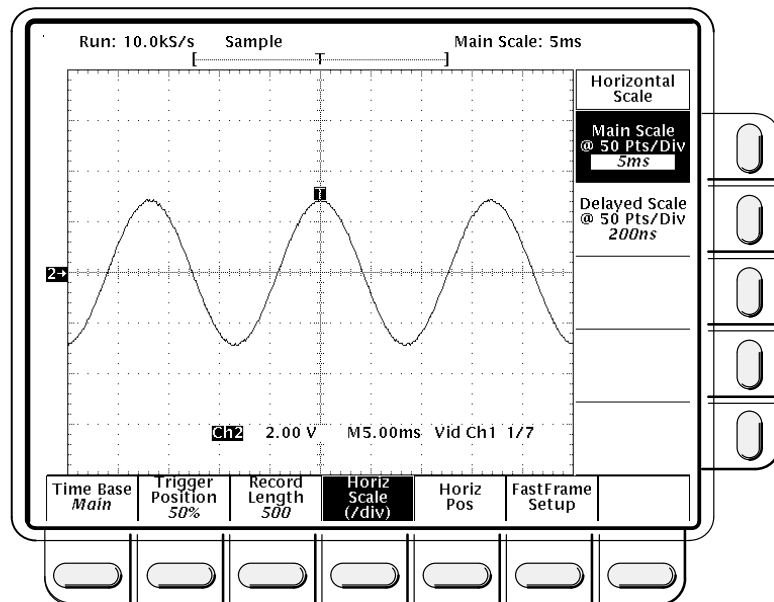

Figure 1-33: 60 Hz Rejection Test Setup Signal
- Adjust the SG 502 for three vertical divisions of 60 Hz signal (See Figure 1-33). The signal will not be triggered. That is, it will run free.